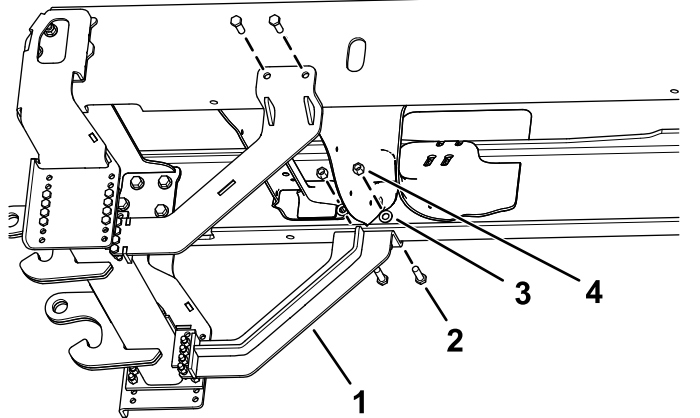

Figure 5
8. Secure the angle brackets to the vehicle frame using 4 bolts (5/8 x 2 inches), 4 washers, and 4 nuts (5/8 inch) as shown in Figure 5.